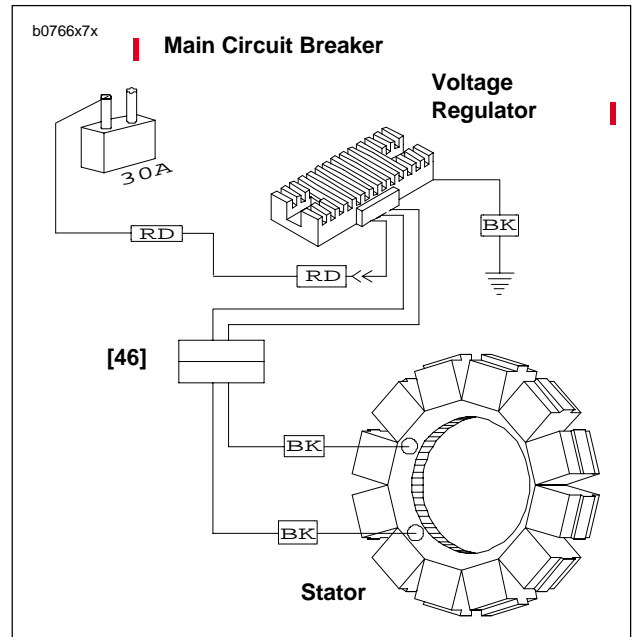

Figure 7-27. Voltage Regulator Connector [46]
3. See Figure 7-27. Locate voltage regulator connector [46] near the oil pump. Disconnect from alternator stator wiring. Cut cable straps if necessary.